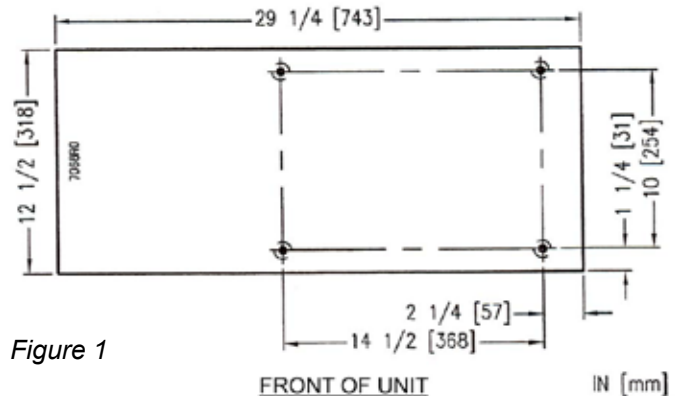

Figure 1
2. Mark four corner locations of unit base, as shown in figure 1.
3. Remove unit from counter and locate position of four holes as per figure 1.